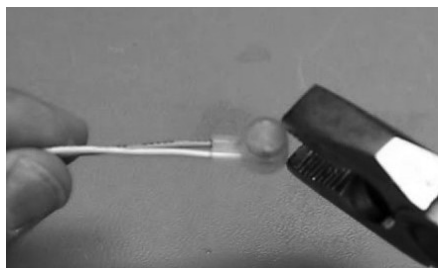

Figure 3
5. Insert (1) of the coil wires just prepared, and (1) of the wires from the splice assembly, fully into a butt splice connector (see Figures 3 & 4). Squeeze the round top of the butt connector tightly onto both wires. Internal contacts penetrate the wire insulation, capturing the wires, and releasing an insulation gel for protection. Repeat process and connect the remaining (2) wires together.